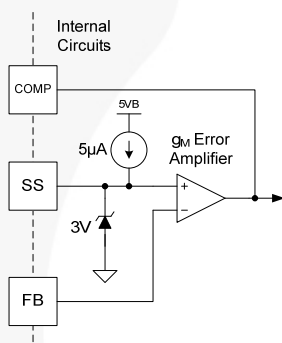

Figure 28. Error Amplifier Configuration
Implementing this function with a circuit external to the FAN9612 is straightforward because the error amplifier reference (the positive input) is available on the soft-start (SS) pin, as shown in Figure 28. In the FAN9612 architecture, the power of the converter is proportional to the voltage on the COMP pin, minus a small offset. The voltage on the COMP pin is monitored to determine the operating power of the supply. Therefore the voltage on the SS pin can be adjusted lower to achieve the desired lower output voltage.